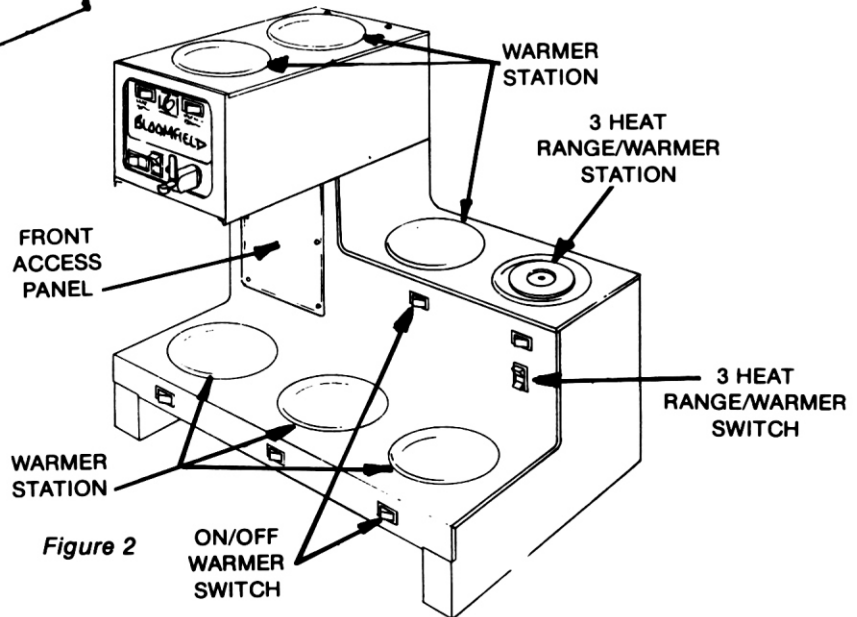

Figure 2
**7 STATION UNITS:** - Remove front panel from column for lower service area. See Figure 2.